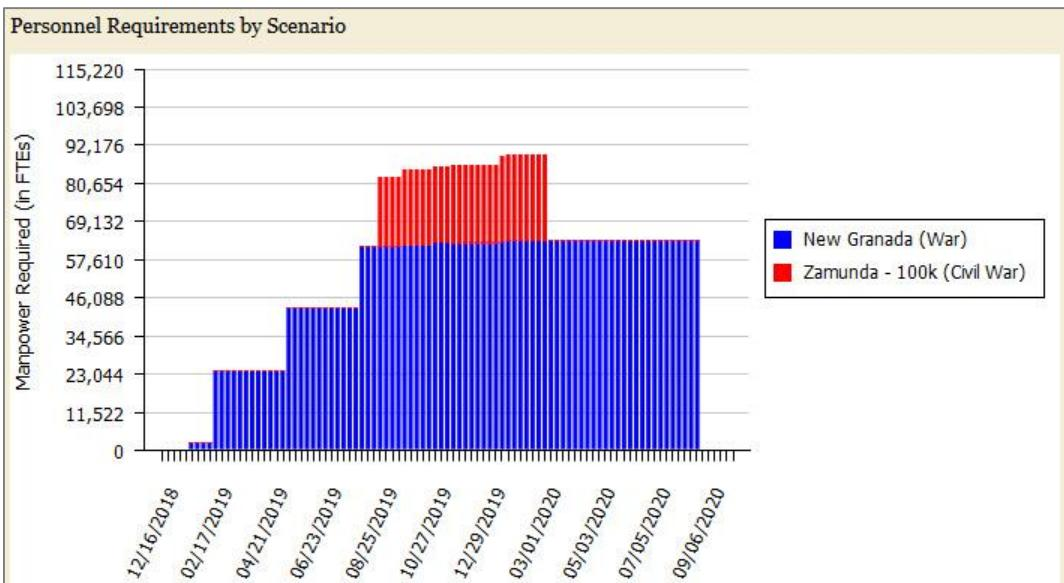

Figure 14. 100,000 Evacuees analysis: Personnel Requirements by Scenario
21. Personnel Requirements by Scenario graph should look like Figure 14. It can take a while to load.